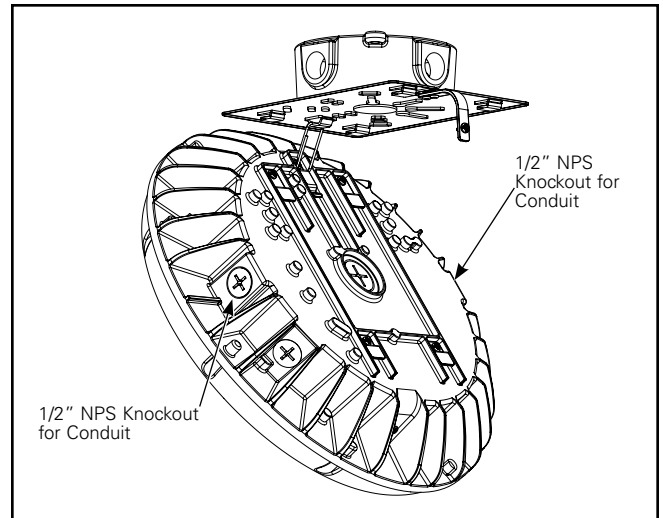

Figure 4.
5. While the fixture hangs from the quick mount plate loop, remove the 1/2" NPS knockouts, connect conduit to the fixture, and secure with teflon tape (Figure 4). The 1/2" NPS Knockouts are directly opposite one another on the fixture; do not use the Selectable Lumen Switch Knockout to connect conduit.